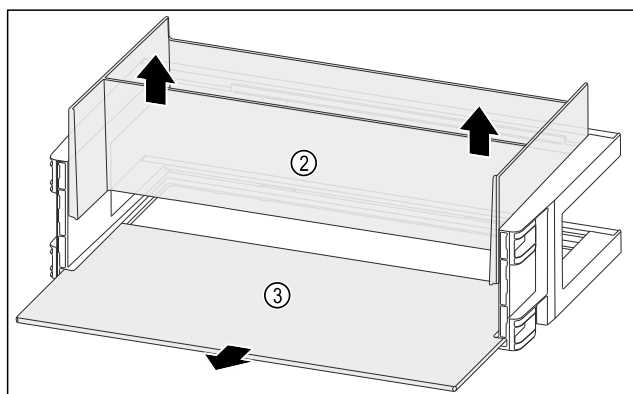

Fig. 133
- Remove the organiser *Fig. 133 (2)* upwards.
- Remove the shelf *Fig. 133 (3)*.